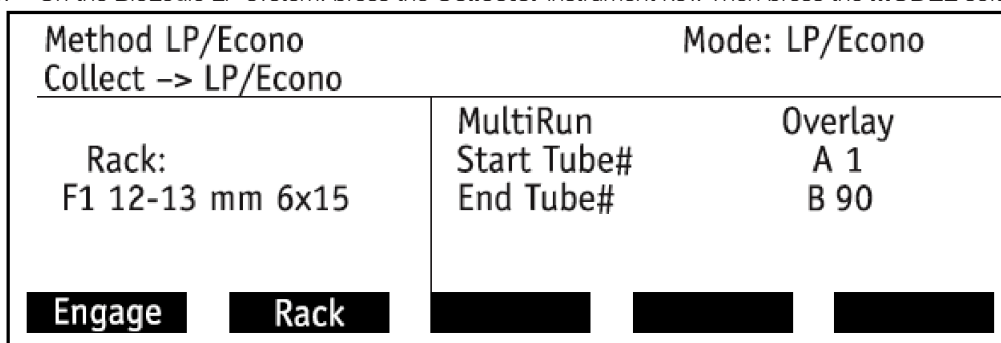

Figure 7.8. Faceplate of the BioFrac Fraction Collector.
4. Press the **ENGAGE** softkey to move the drop collector to the first tube and allow communication between the BioLogic LP system and the BioFrac fraction collector (Figure 7.8).